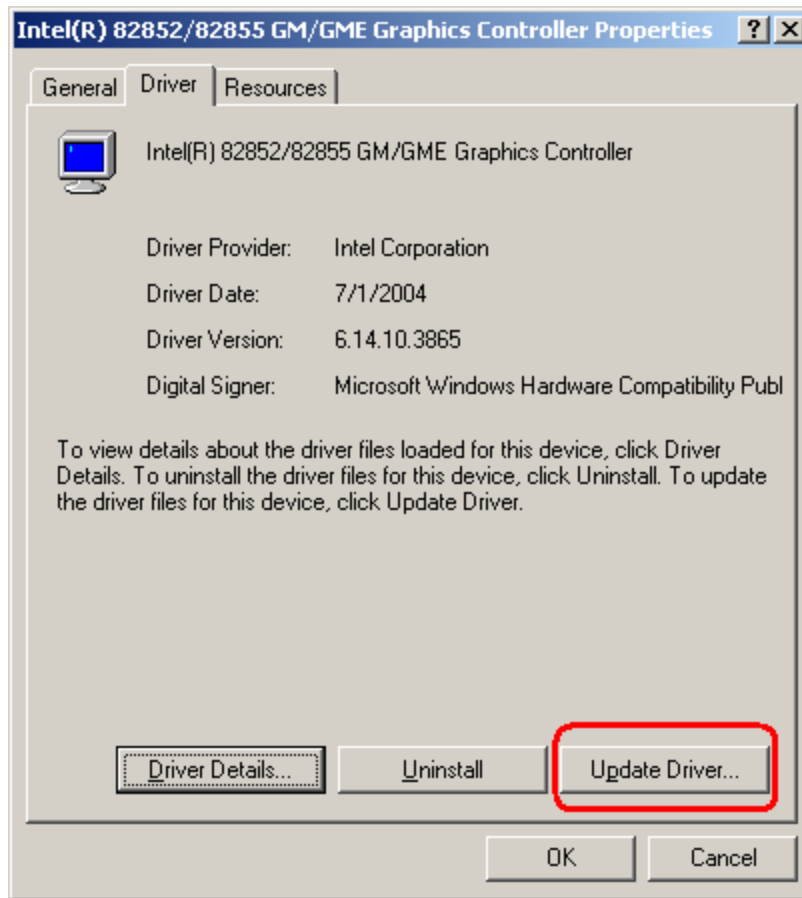

Figure 7-8: Update Driver
Step 6: From the **Driver** tab of the **Properties** window, click **Update Driver** (Figure 7-8) or, click **Reinstall Driver** if **Update Driver** is not seen.